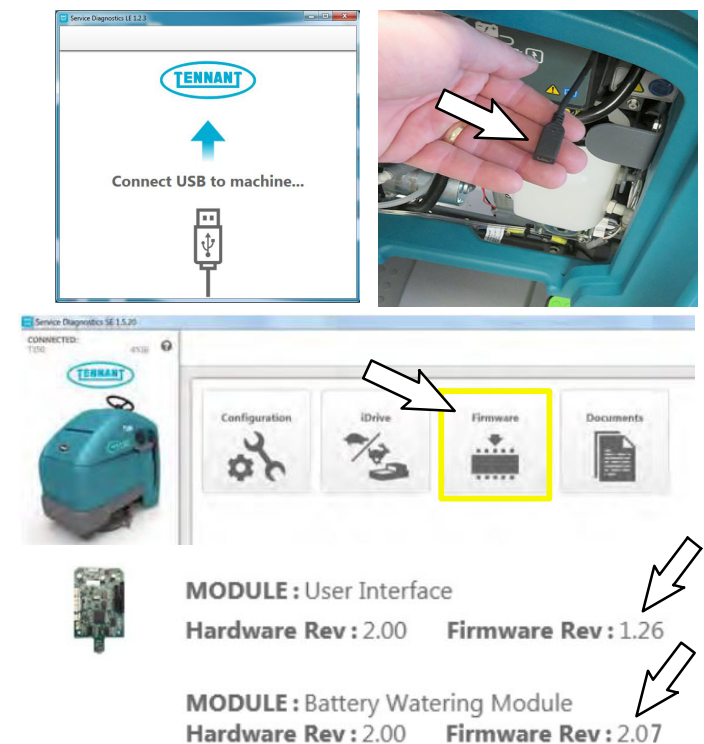

Fig. 17
18. Using the Service Diagnostics Software Application (version SE 1.6.0 and LE 1.6.0 or newer), update the Firmware to the latest revision (Figure 17).